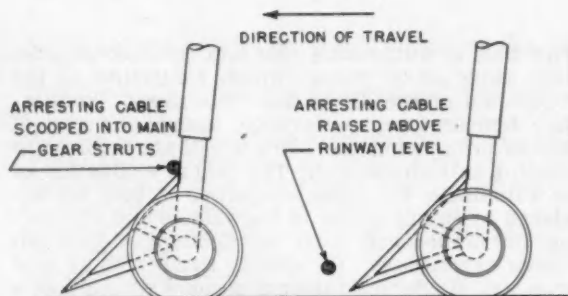

Fig. 4—Scoop on front of wheel lifts cable to wheel strut. Cable must be elevated above ground clearance of scoop.
- **Wheel scoop-up**—A "cow catcher" in front of the wheels lifts the cable until it engages the wheel strut. The arresting cable has to be elevated to provide ground clearance for the scoop. (See Fig. 4.)